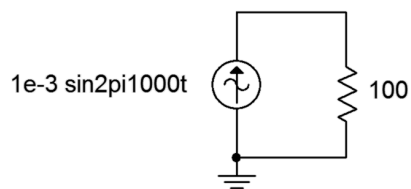

Figure 2.6
11. Draw the voltage and current waveforms for the circuit of Figure 2.6.